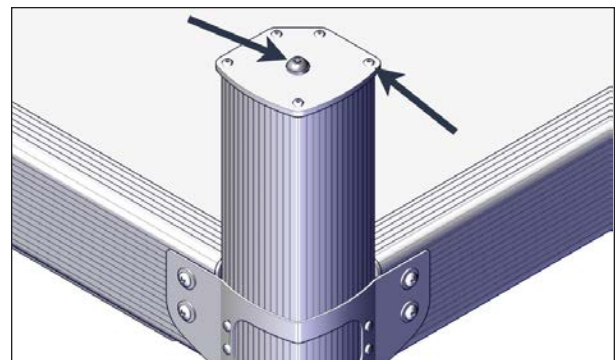

FIGURE 77: SCREW REMOVAL
3. Remove the five screws on the top plate of each post, see Figure 77.
4. Remove the center screw and bushing from each post. Keep the top plates, screws, and bushings in a safe location, see Figure 77.